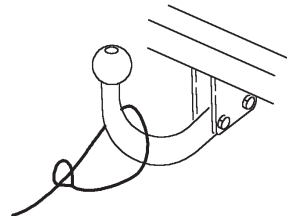

Fig 2
- Press the red stabilising lever down. The AKS is now ready for the road (Fig. 2).
- Unscrew the plastic cap from the receiver and store in the tool kit box. (When AI-Ko Secure is not in use, always screw the plastic cap in place). (Fig. 2)
Fixed ball - Loop the cable around the neck of the towball. If you fit the cable like this, use a single loop only. (See Figs. 2 and 3).